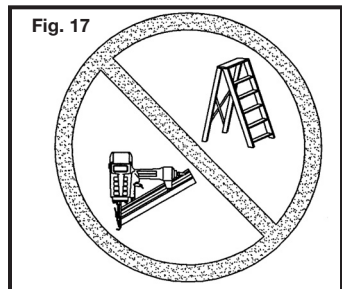

Fig. 17
27. FOR CONTACT ACTUATION TOOLS ONLY, Do not use on scaffoldings or ladders or for tasks in which changing location involves the use of scaffoldings, stairs, ladders, and the like. Do not use for specific tasks such as closing boxes or crates or fitting transportation safety systems on vehicles and wagons. Fig. 17.